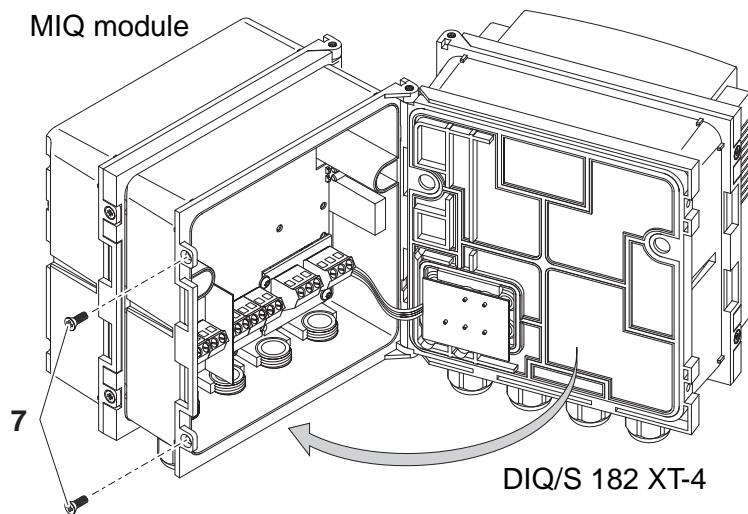

Fig. 3-6 Closing the enclosure (variant 1)
| 8 | Close the cover of the DIQ/S 182-XT-4 and fix it in place with the two countersunk bolts (pos. 7 in Fig. 3-6).   |